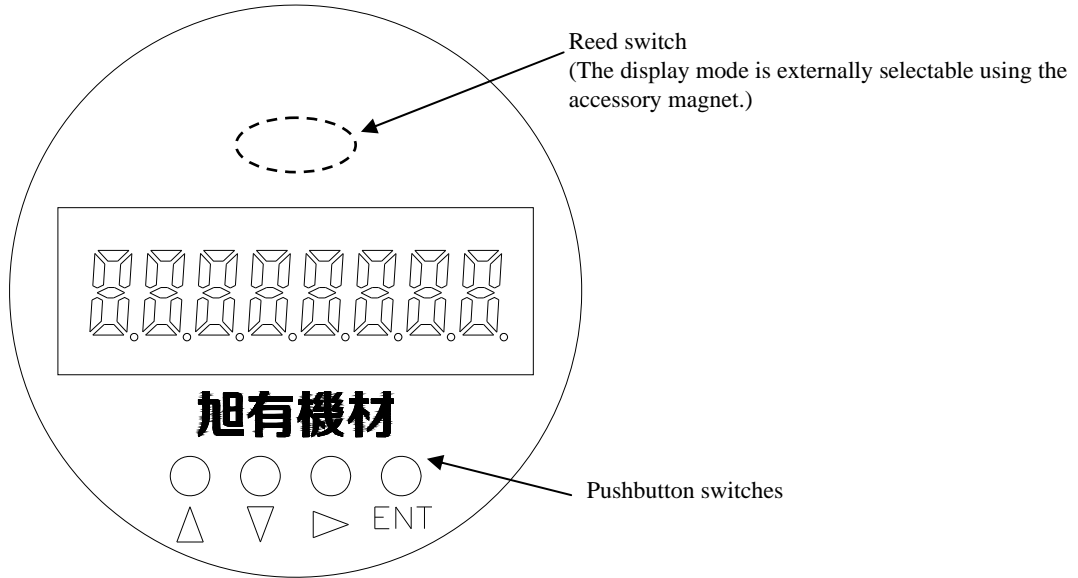

Figure 8-1 LCD indicator
- ① Bring the accessory magnet closer to the reed switch in the upper part of the indicator (dotted in Figure 8-1) and the “MODE” number shown in the indicator will vary.
- ② Display mode changes cyclically change from “MODE1”(total integrating flowrate value) to “MODE2”(instantaneous flowrate value), to “MODE3”(reset integrating flowrate value), to “MODE4”(% flowrate reading) and back to “MODE1.”
(2) Resetting the reset integrating flowrate value (MODE3)
With the display screen set in the reset integrating flowrate value state (MODE3), bring the accessory magnet close to the dotted area shown in Figure 8-1 to turn on the reed switch for longer than 3 seconds.